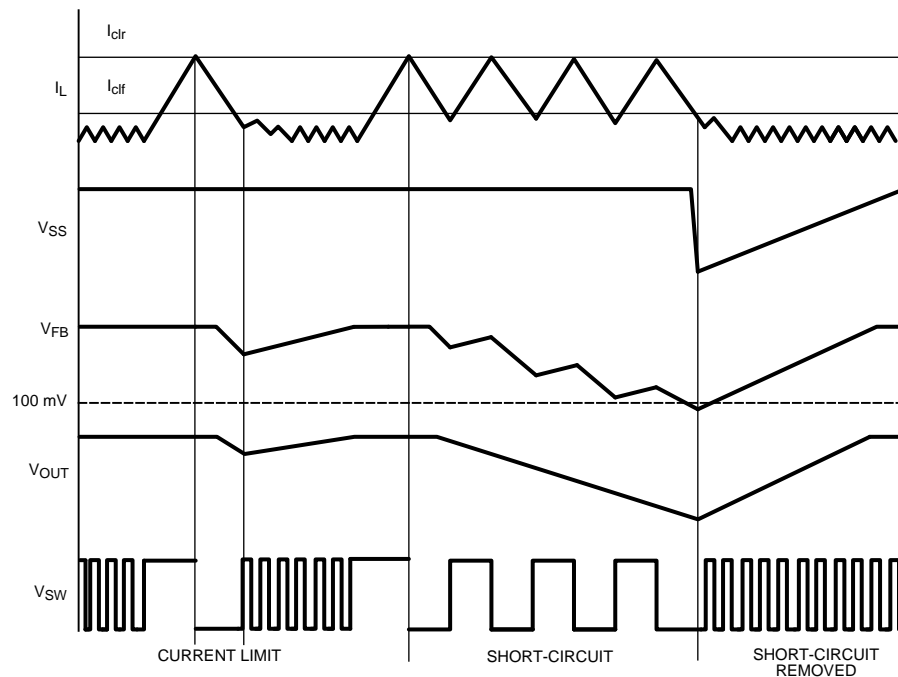

Figure 18. Current Limit Conditions
A current limit condition will cause the internal soft-start voltage to ramp downward. After the internal soft-start ramps below the feedback (FB) pin voltage, (nominally 0.6 V), FB begins to ramp downward, as well. This voltage foldback limits the power consumption in the device, thereby protecting the device from continuously supplying power to the load under a condition that does not fall within the device SOA. After the current limit condition is cleared, the internal soft-start voltage will ramp up again. Figure 18 shows current limit behavior with V_{SS} , V_{FB} , V_{OUT} and V_{SW} .